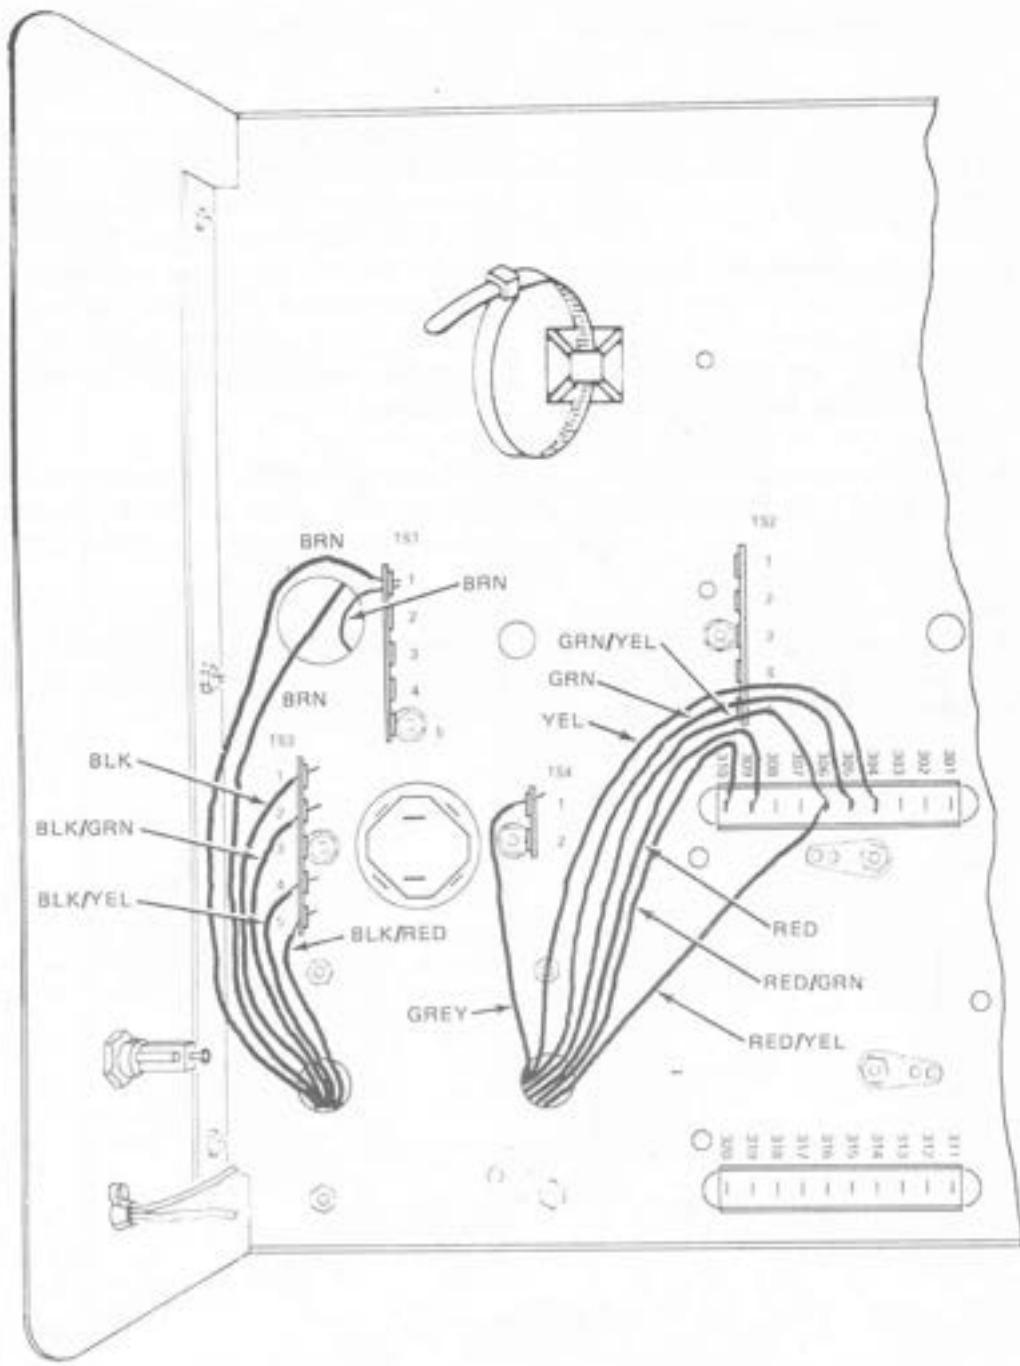

Figure 23. Connecting the power transformer wires.
Refer to Fig.23 and route each wire as shown:
- (3) Connect the green/yellow power transformer wire to terminal 306 (NS)
- (4) Connect the red/yellow power transformer wire to terminal 306 (NS)
- (5) Connect the green power transformer wire to terminal 305 (S1)
- (6) Connect the yellow power transformer wire to terminal 304 (S1)
- (7) Connect the gray power transformer wire to TS4-1 (NS)
- (8) Connect the black power transformer wire to TS3-1 (NS)
- (9) Connect the black/green power transformer wire to TS3-2 (NS)
- (10) Connect the black/yellow power transformer wire to TS3-4 (NS)
- (11) Connect the black/red power transformer wire to TS3-5 (NS)
- (12) Cut either of the brown power transformer wires to a length of 7". Save the leftover piece of brown wire for use in the next step. Now connect the 7" brown transformer wire to TS1-1 (NS)
- (13) Connect one end of the brown wire you cut off in Step 12 to TS1-1 (NS). Route the other end of this brown wire through the chassis hole as shown in Fig.23
- (14) Route the other brown power transformer wire through the chassis hole as shown